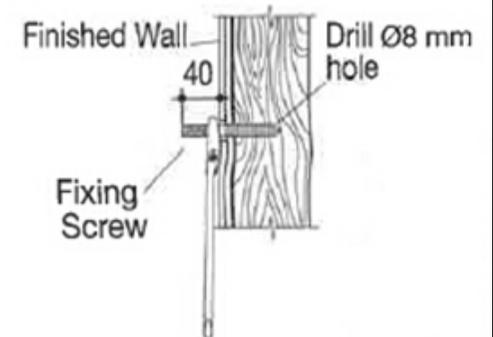

Figure 3.
- 6 - Locate wash-plane onto the Fixing Screws on the wall. Insert plastic bushes, metal washers and fasten to wall with fixing nut. To complete assembly as shown in **Figure 3**.